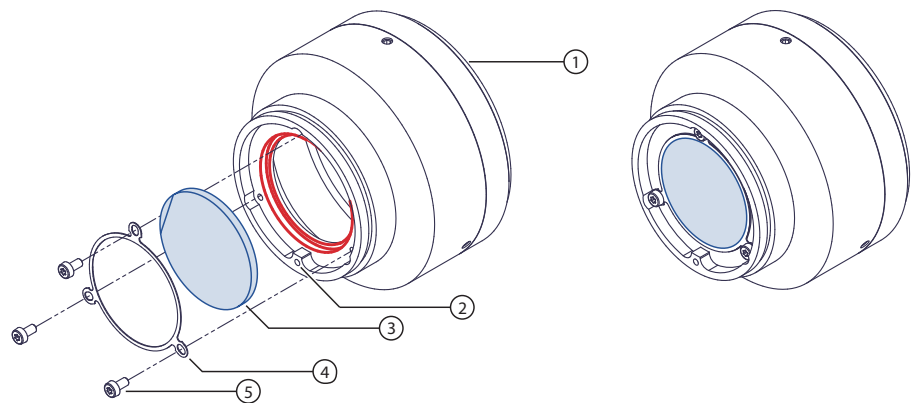

Figure 14: Installing a filter to an F-Mount adapter
3. On the back side of the adapter, loosen the three cylinder bolts (5) of the filter fixing ring (4), using a Torx T6 tool.
5. Remove the existing filter glass (3) from the adapter.
- See Figure 14 above (blue = filter, red = filter recess).